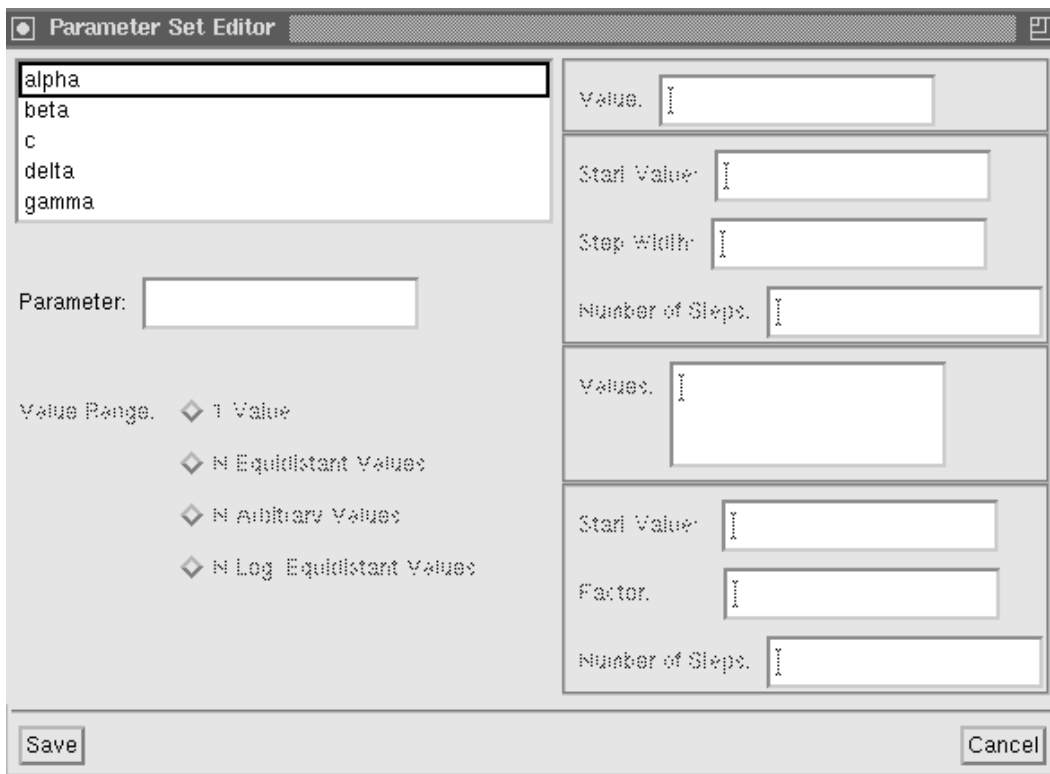

Figure 29: The parameter set editor.
Step 22: Press the **Create** button of the parameter index in order to create a new parameter set. The parameter set editor shown in figure 29 appears.